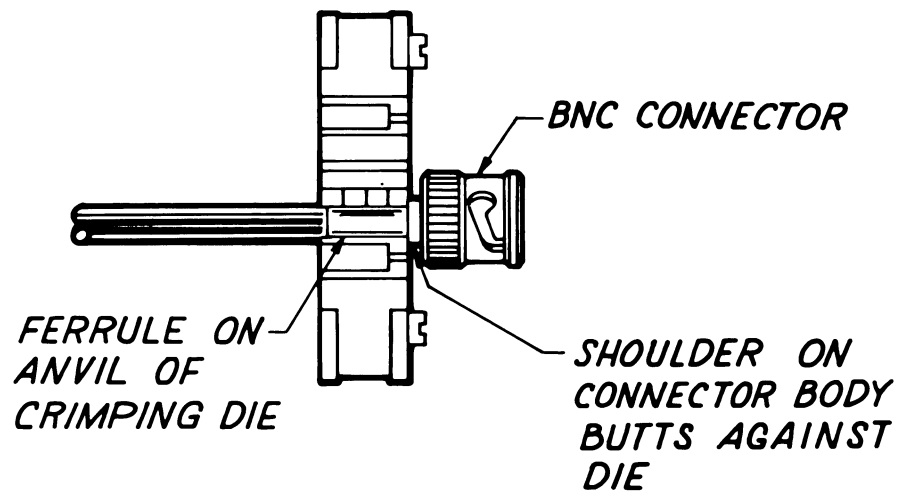

Figure 4.2.3.1.3 Crimping Ferrule
6. Crimp the ferrule using 45C73 crimp tool.(See figure 4.2.3.1.3)